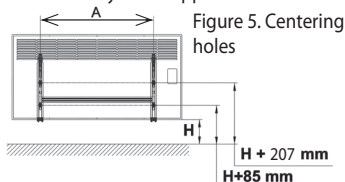

Figure 5. Centering holes
2. Correct space has to be measured in order that the connection cord can easily be connected to the electric socket. After determining the place the holes for montage must be drilled according to the method shown in Figure 7. To fix this appliance you can use the wall mounting bracket. (Figure 5) Mounting bracket can be used as a template for positioning and drilling points. You can place the bracket on the wall and measure the space between the floor and the lower part of the bracket as min 100 mm or max. 200 mm. Mark the screw-holes through the holes with an appropriate pen. You have to be careful to ensure the safety zones are kept free in order that the appliance can work efficiently. (Figure 6.)